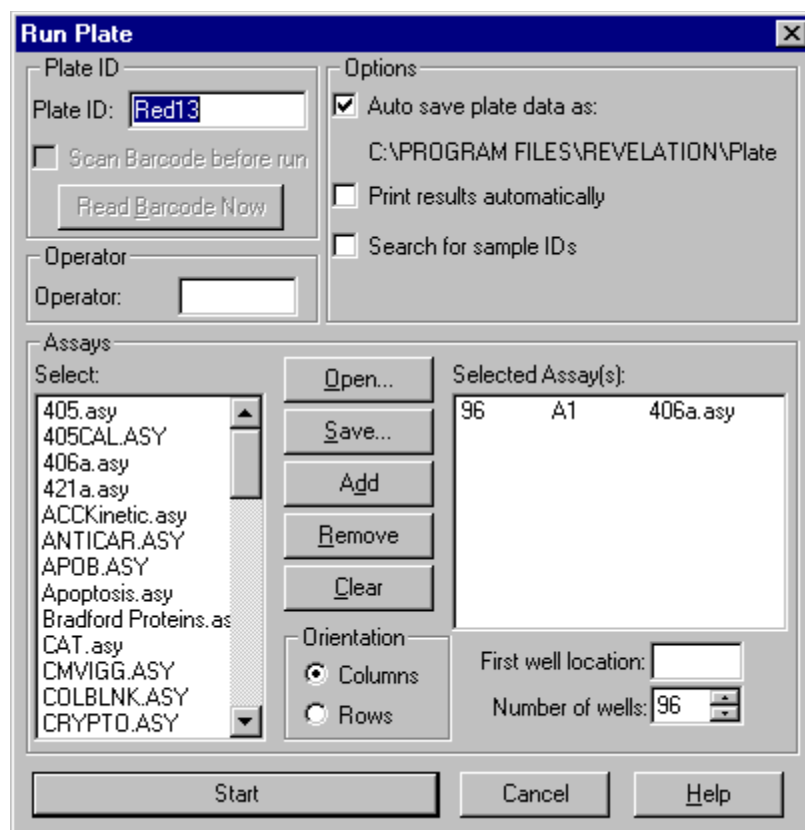

Figure 11-6 The *Run Plate* Dialog Box
- 1 Select the **Run Plate** command from the *File* menu to present the *Run Plate* dialog box (Figure 11-6).